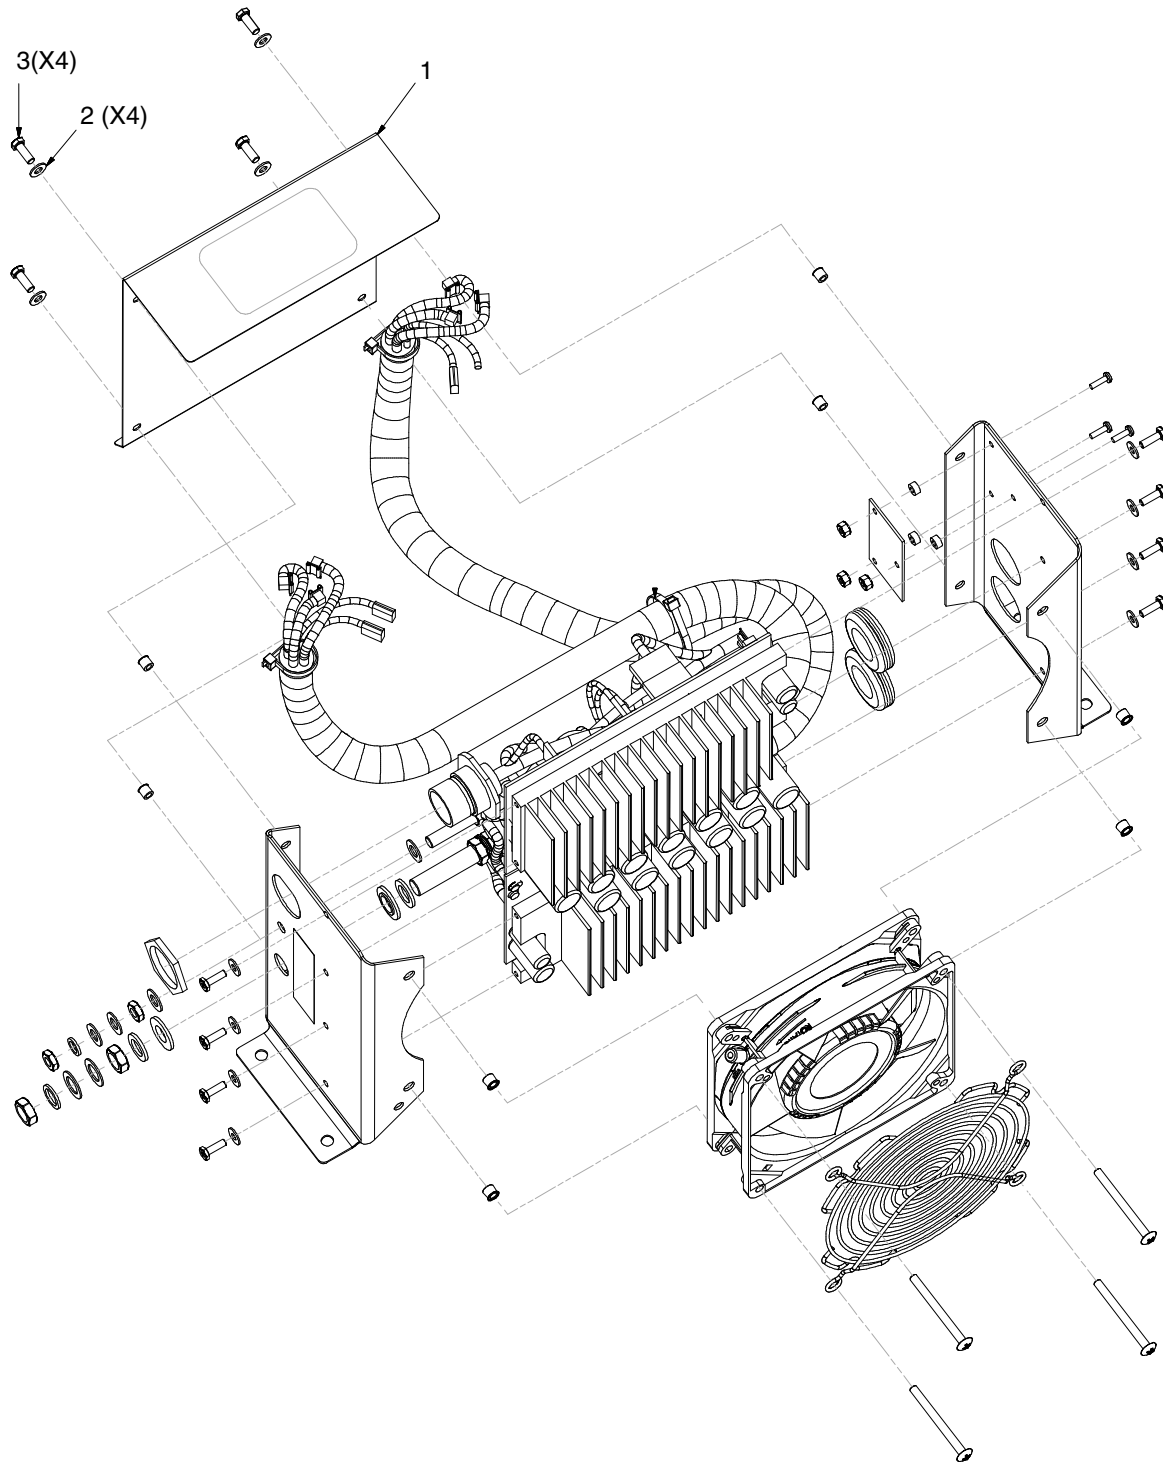

Figure 3
- (8) Turn controller assembly as required to access the four screws retaining the back cover on the controller assembly. It is permissible to cut the tie wraps that may be securing the compressor power cable assemblies to each other to aid in manipulating the controller to a better working position. It is not required to disconnect the power cables from each of the compressors. Keep a record of which tie wraps were cut so they can be replaced later.
- (9) Remove four screws, P/N NAS1801-06-6 (3, Figure 3) and four flat washers, P/N NAS1149CN632R (2, Figure 3) that secure the back cover (1, Figure 3) to the controller. Retain back cover and fasteners for reinstallation.
- (17) Reinstall the back cover (1, Figure 3) with four screws, P/N NAS1801-06-6 (3, Figure 3) and four flat washers, P/N (2, Figure 3) removed earlier. Torque screws to 12 in-lbs.